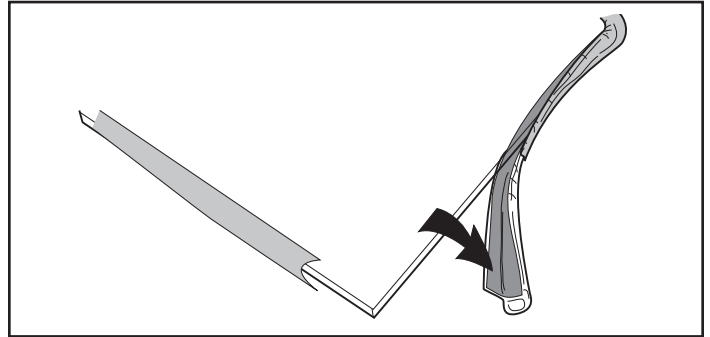

Figure 8.3 - Wrap the gasket material around the outside edge of the glass.
1. Starting on a long edge, remove about 6" of the protective paper strip and apply the flat adhesive face of the gasket around the outside-facing edge of the panel. Continue around the panel, applying about 6" at a time and being careful to not stretch the material. Do not overlap the gasket ends. (Figure 8.3)